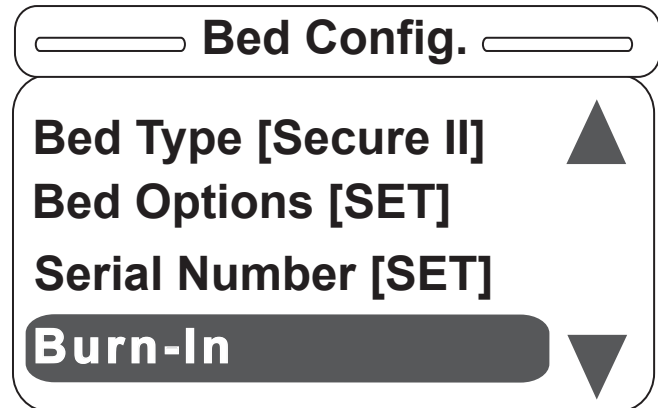

Figure S-31
29. Pressing “Exit” on the footboard panel while in the Serial Number screen will return the user to the Bed Config. main menu as shown in Figure S-31. Note that the user can see the state of the items previously set. Select the Burn-In option and press “Enter” on the footboard panel. If needed, press “Exit” to cancel the operation.